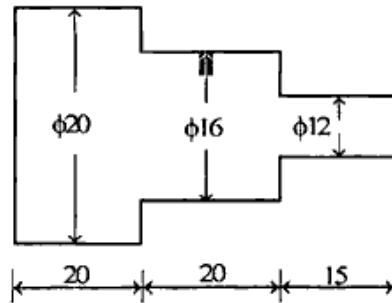

Figure 2
b) Write a part program for the component shown in figure 2 use the following data: 9